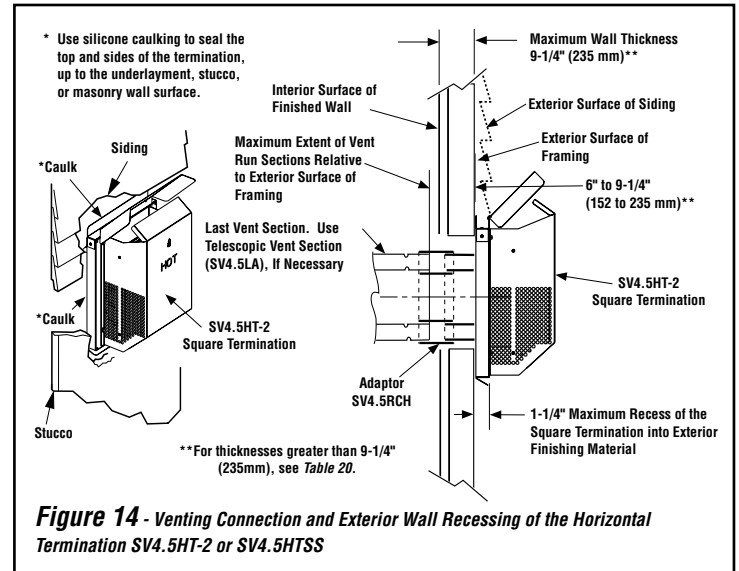

Figure 14 - Venting Connection and Exterior Wall Recessing of the Horizontal Termination SV4.5HT-2 or SV4.5HTSS
6. **Combustible Exterior Wall:** A combustible siding standoff is required when terminating through combustible siding materials. For vinyl siding, stucco or wood exteriors, a siding standoff may be installed between the vent cap and the exterior wall. Siding standoff prevents excessive heat from damaging siding materials. Siding material must be cut to accommodate standoff. Fasten vent cap to standoff. Apply nonhardening mastic around outside edge of standoff. Position standoff/cap assembly over the 12-1/8" x 12-1/8" rectangular hole and attach to exterior wall with appropriate type fasteners for wall material (see Figure 14). Siding standoff must sit flush against exterior fascia material.